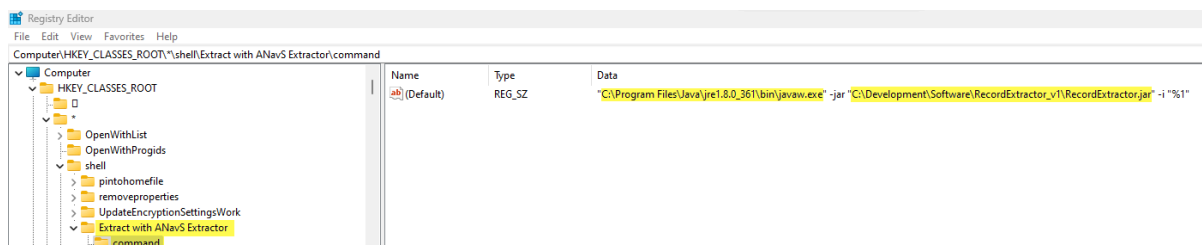

Figure 50: Registry with the new key for the Windows 11 right-click menu of the ANavS® Record Extractor Tool.
6. The successfully created key is shown in Figure 50.